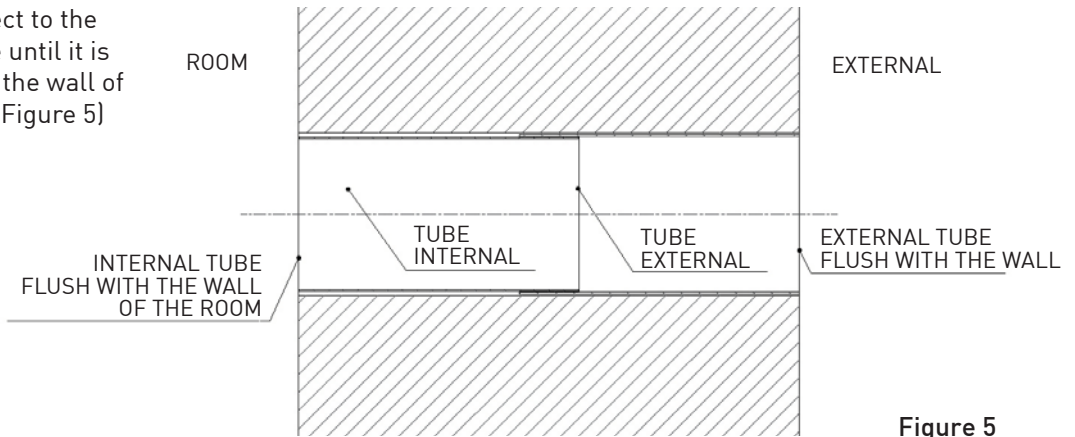

Figure 5
4. Slide the inner tube with respect to the outer tube until it is flush with the wall of the room (Figure 5)